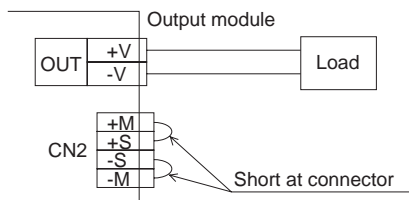

Fig.3.1 When not using remote sensing function
■ Wiring method without using remote sensing is shown in Fig.3.1.